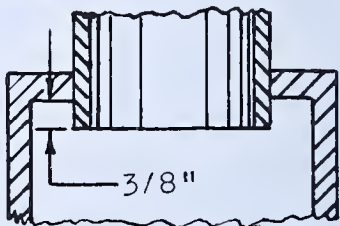
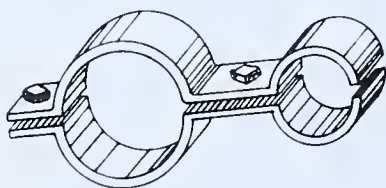

FIG. 492 — Tube Projects 3/8" into Uptake Header
FIG. 498 — *Special Clamp*
5. Clamp the bent end of the rear water wall tube to the 2" generating tube directly above the bend. Use the special clamp shown in Fig. 498. Adjust the clamp to allow the tube to project  $\frac{3}{8}$ " into the uptake header. See Fig. 492.
6. Insert Expander No. 7368 and Mandrel No. 40 into the bent end of the tube. Insert the expander (Fig. 492) and mandrel through the uptake header from the rear. See Fig. 494.